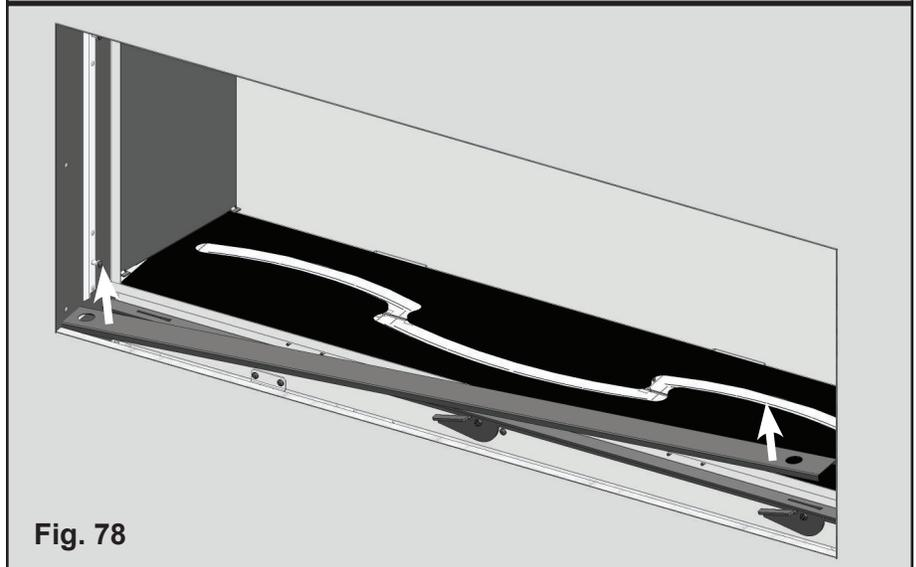

Fig. 78
2. Remove the valve access cover using the finger holes at each end, set it aside. (Fig. 78)